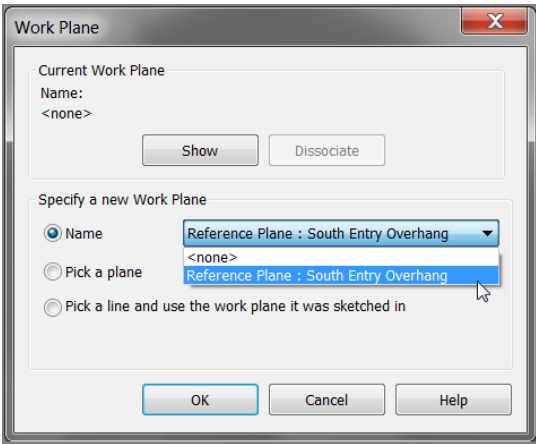

FIGURE 7.50: Selecting the South Entry Overhang reference plane
- 2. When you start the command, Revit asks you to specify a reference plane. Select Reference Plane: South Entry Overhang from the Name drop-down list, as shown in Figure 7.50.